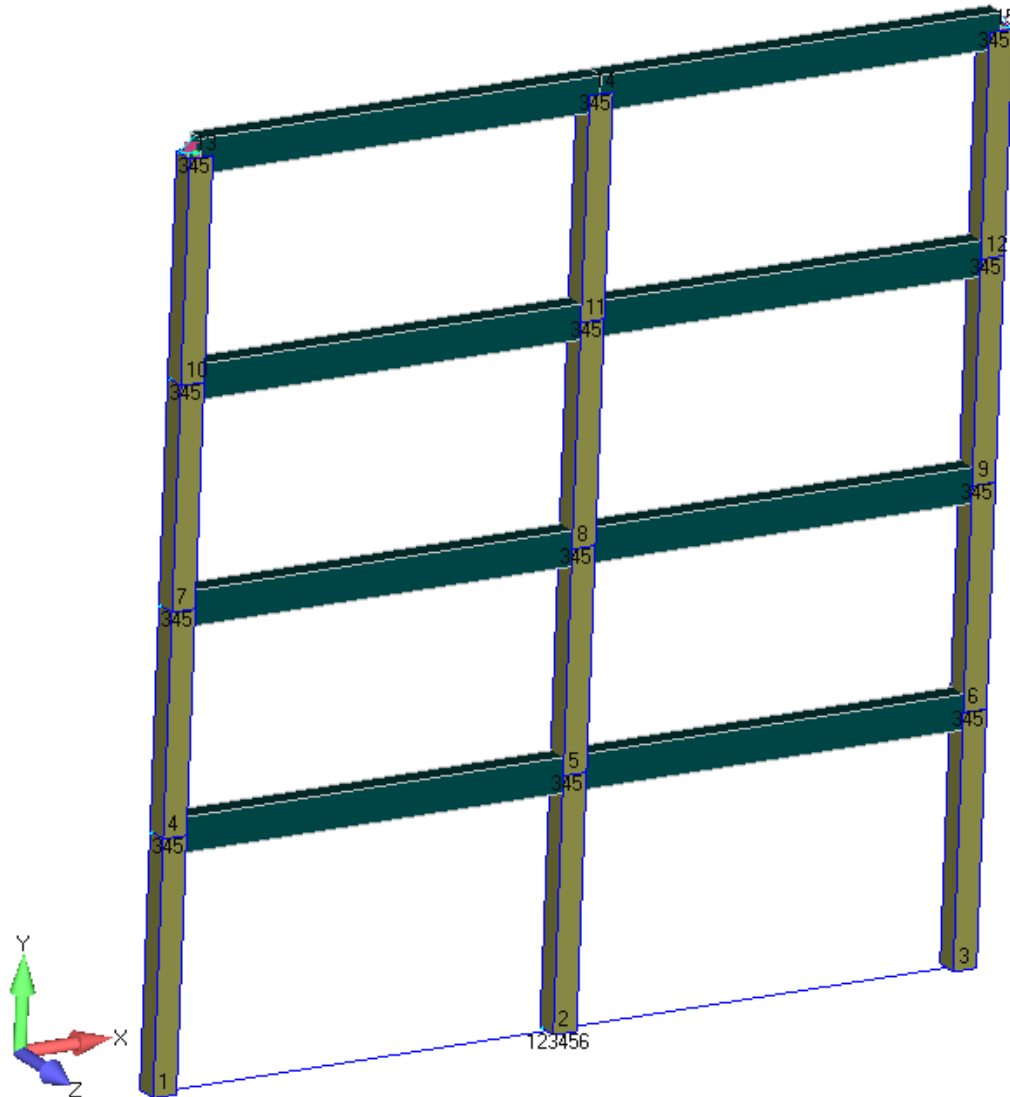
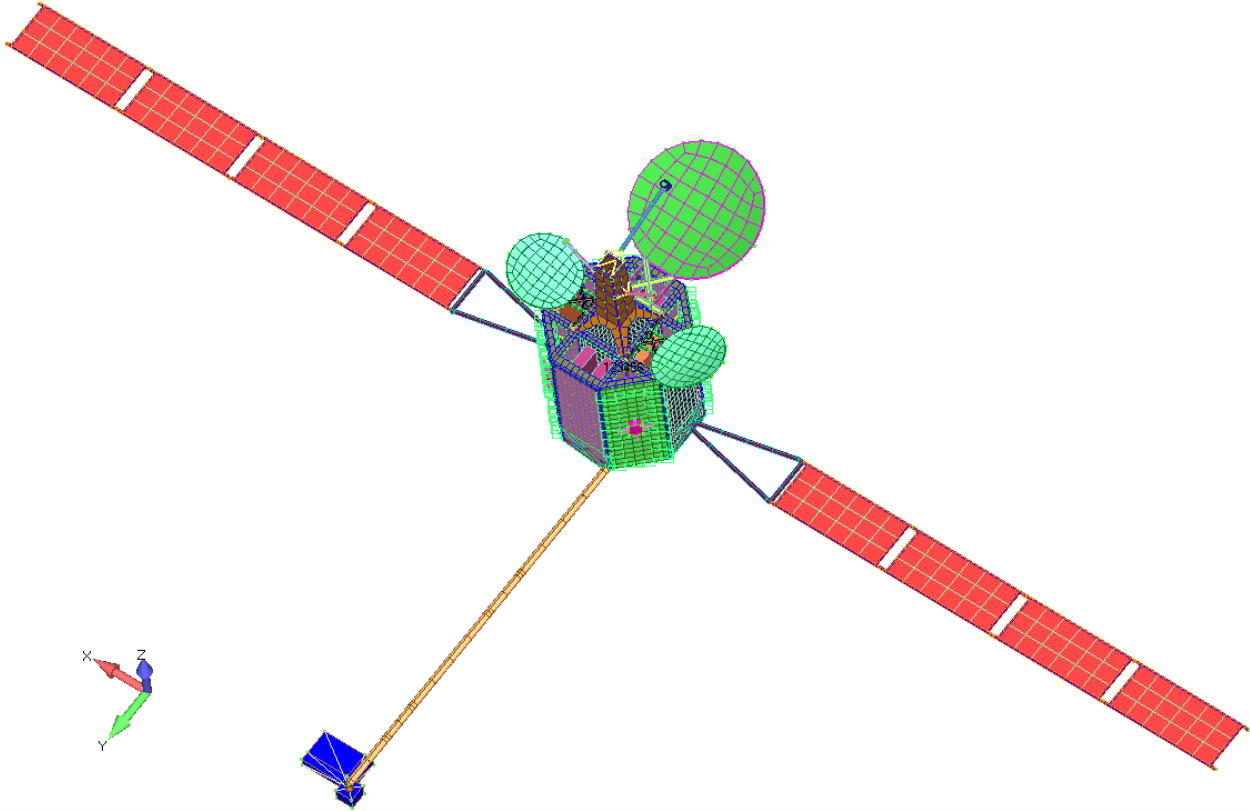

Figure 4-3. Two-dimensional frame model.
Figure 4-6. Isat model in deployed configuration.
The two-dimensional frame model (Figure 4-3) consists of an array of bar elements three columns wide and four rows high. Concentrated mass elements are located at each intersection of bar elements while the bars themselves are massless, thus making this a lumped mass approximation. The bottom node of each outer column is connected by a rigid element to the bottom node of the center column, which is fixed in all six DOF. Enforced motion in X translation is enabled at this node. Out-of-plane (Z) translation and X and Y rotation are constrained at all other nodes.
The deployed configuration "Isat\_Dploy\_Sm.dat" (Figure 4-6) is a free-free model with the launcher adapter removed and the solar panels, antenna dishes, and instrument package deployed. This model includes residual vectors that can improve stress calculations for loads applied at the reaction control system (RCS) thrusters.
You may wish to adjust the view settings in Femap at this point. For example, in the figures showing the frame and Isat models (Figure 4-3 through Figure 4-6), we set the background color to solid white; set the color of all labels and postprocessing titles to black; had Femap assign a different color to each physical property in the model and then set the element color mode to use physical property colors; and set the element orientation/shape option to show cross sections, which also shows shell element thickness.
1. In Femap, import the frame model "frame01\_modes.dat" (Figure 4-3). Save the Femap model file as "frame.modfem."